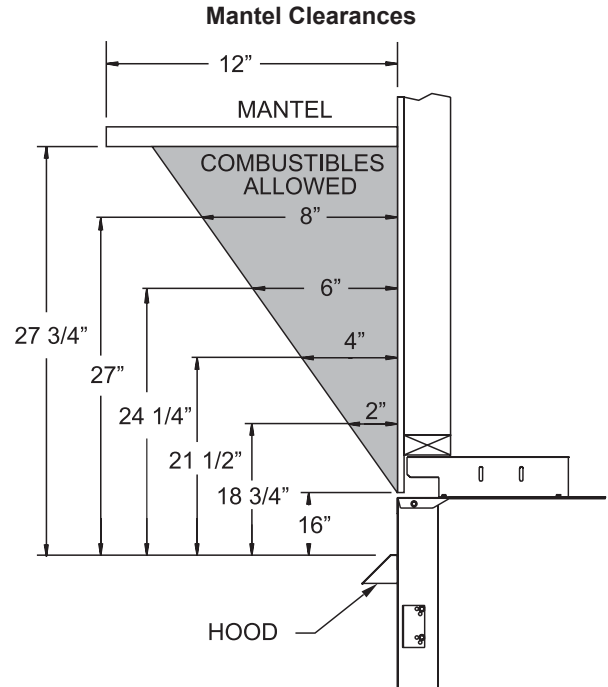

Figure 2
## Minimum Wall and Ceiling Clearances (Figure 2)
**Mantel Clearances:** Ventless fireplace models must use the hood supplied with the fireplace. If a combustible mantel is installed, it must meet the clearance requirements detailed in Figure 2..